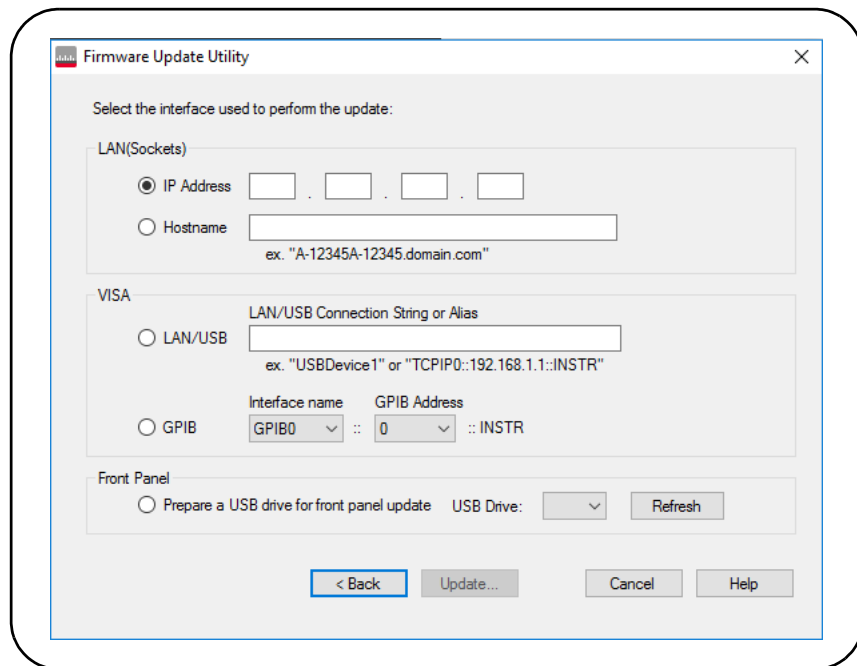

Figure 2-10 Specifying the address or host name.
- 3 Enter the counter's IP address or host name (Figure 2-10). Select 'Update' to start the update process.